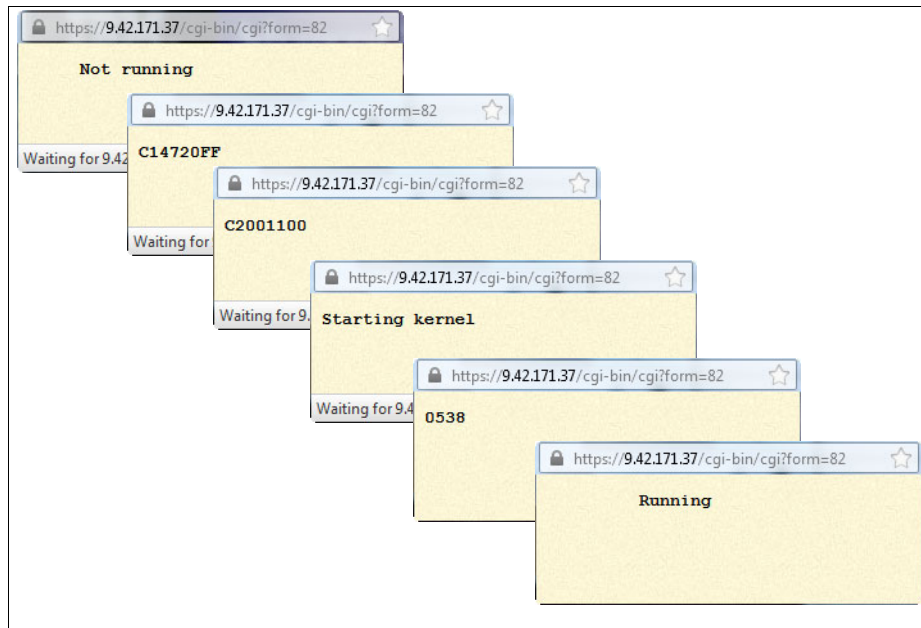

Figure 7-146 ASMI real-time messages
9. A new window opens that displays the current status (SRC) or AIX progress code. Figure 7-146 shows a sample of real-time start messages and codes from a power off state through the VIOS startup.